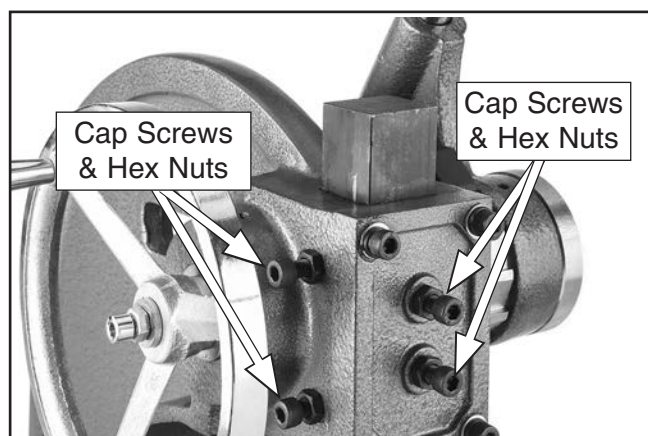

Figure 8. Cap screws used to adjust ram free-play.
Cap screws on the front and left side of the ram housing (see **Figure 8**) adjust the amount of ram free-play. Ideally the ram should move with very little play but not be overly stiff.
1. Loosen cap screws shown in **Figure 8**.
4. When you are satisfied with the amount of ram free-play, retighten hex nuts (shown in **Figure 8**) without moving cap screws.